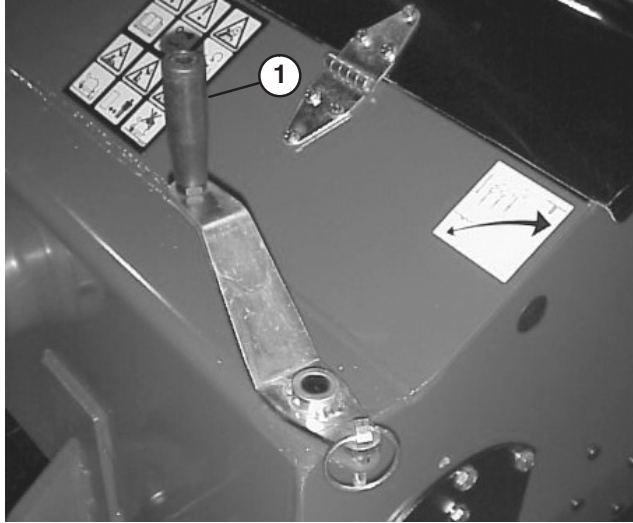

Figure 19
1. Remove the lynch pin from each depth adjust handle (Fig. 19).